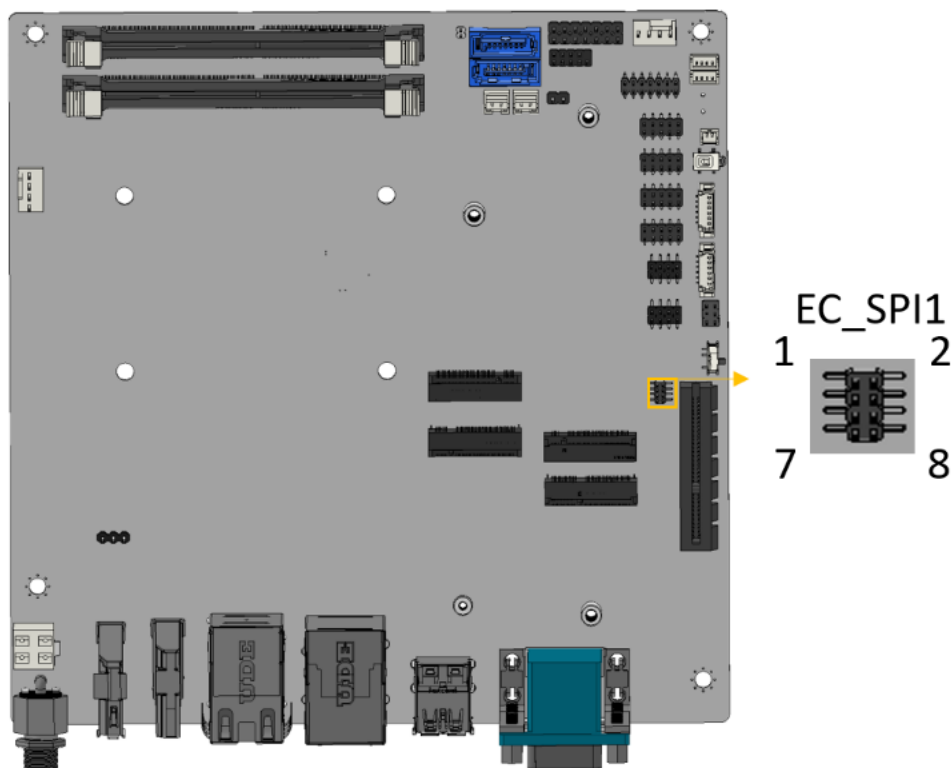

Figure 3-19: Flash EC ROM Connector Location
- CN Location:** See **Figure 3-19**